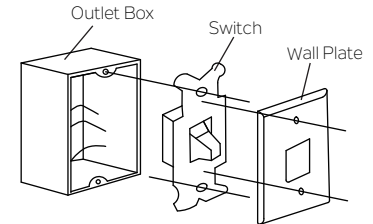

Fig. 28
Step 1. Remove the existing wall plate and the old switch from the wall outlet box. Disconnect wires. (Fig. 28)